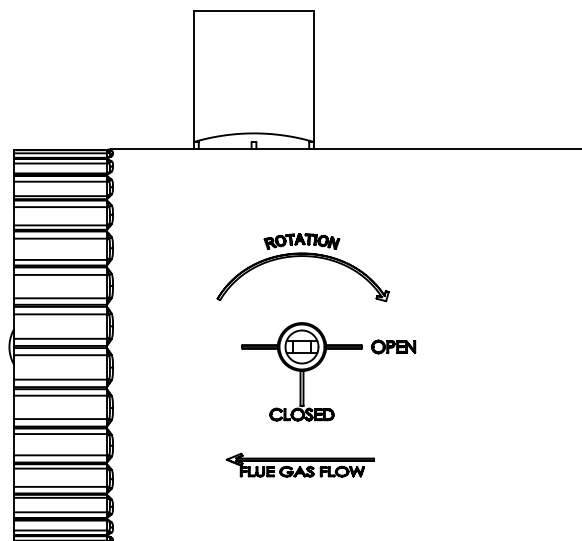

Figure 6-2: Vent Damper Position Indicator
- C. Locate vent damper position indicator to be visible following installation. See Figure 6-2.